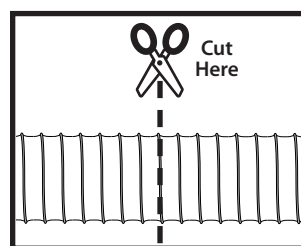

FIG. 10a
Cut the 7" Diameter Flex Hose (K) in half using a razor knife and diagonal cutter to cut through the clear lining and reinforcing wire. [FIG. 10a].